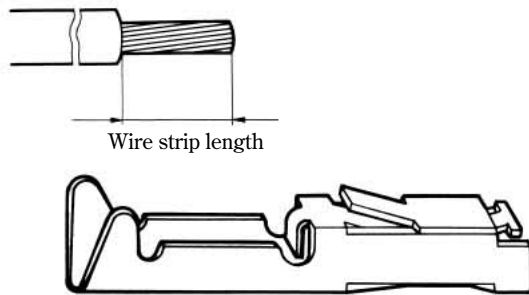

Figure 1
- (1) As shown in Figure 1, peel the applicable cable (AWG#20 to #26) jacket, and connect it using crimping jig HIF3-TA2022HC, HIF3-TA2226HC, or HIF3-TA2426HC. In this case, insert the cable so as to hit the contact cable stripper position as shown Figure 2.